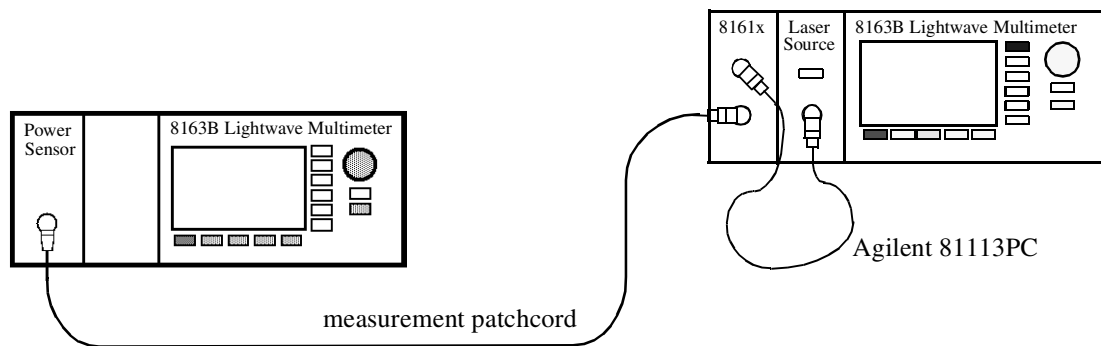

Figure 99 Power Transmitted through the Measurement Patchcord - External Source
- 1** Making sure all the connectors are clean, set up the instrument as shown in Figure 99 if you are using an External Source,